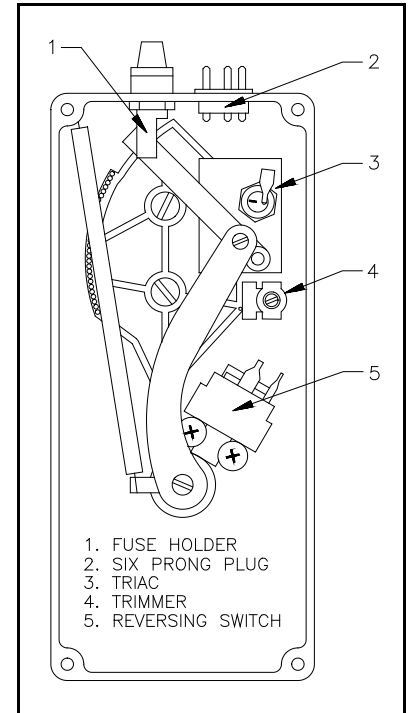

Figure 1. Components
- 3.3 Fold back the paper insulation cover. See Figure 1.